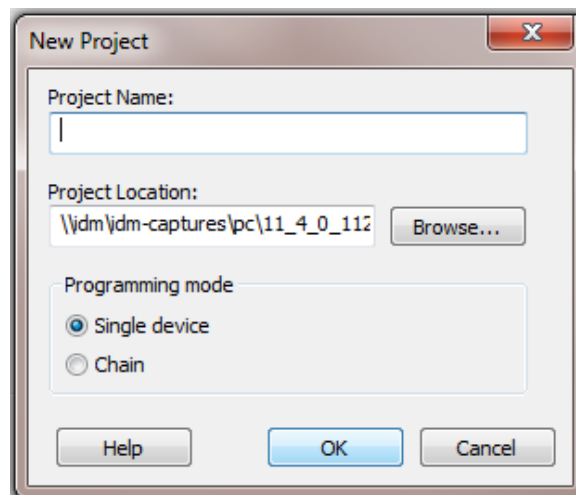

Figure 24 · Creating a New Project
4. Click **New Project** to create a new project. Refer to Figure 24.